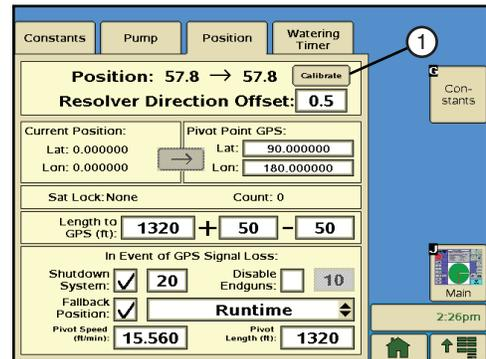

Figure 38-2 1. Calibrate Button
- If the machine is NOT equipped with GPS Position, go to the Position screen. Push the Calibrate button and enter the position on the numeric keypad. See Figure 38-2.